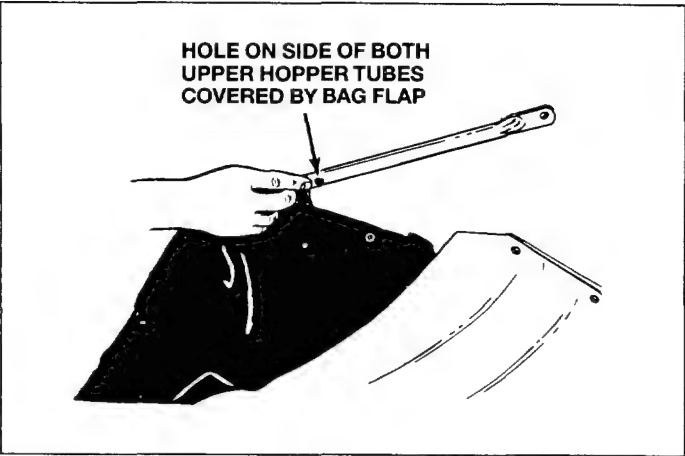

Fig. 13
2. Locate the hole on side of both upper hopper tubes. See figure 13. The bag will require piercing at these holes in a later step. Refer to step 12 on page 26.